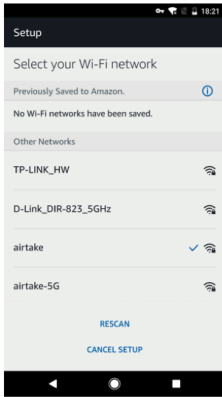
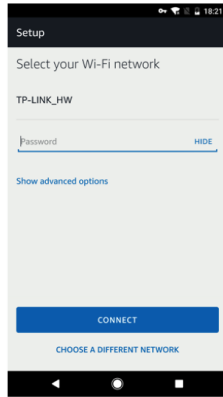
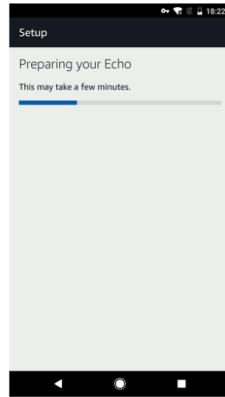

fig.12
fig.13
fig.14
- Select a Wi-Fi network to let Echo access the internet (fig. 12). Type in the Wi-Fi password and then tap 'CONNECT' (fig. 13). Echo may take several minutes to connect to the network (fig. 14).